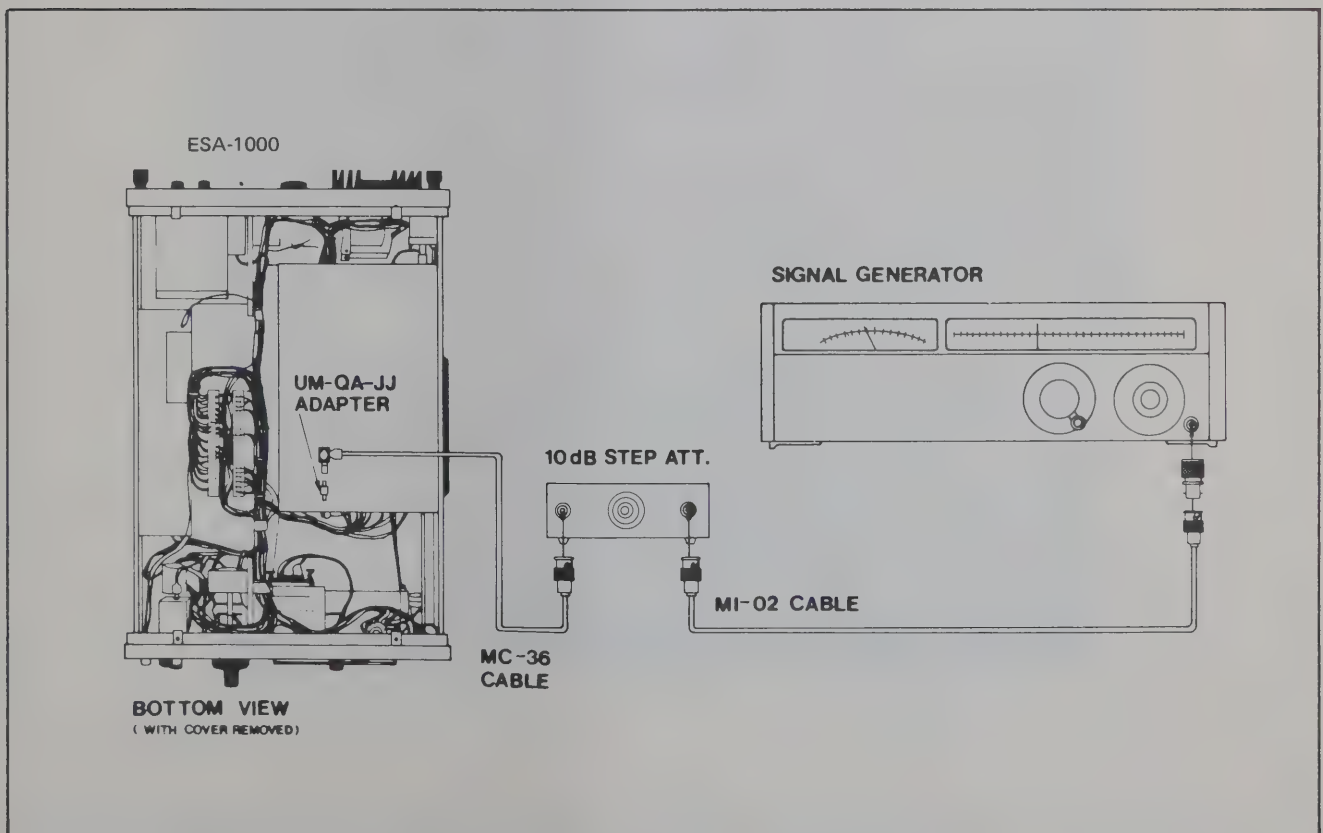

Figure 5.10 LOG AMP Adjustment Setup
- c. As shown in Figure 5.10, disconnect connector J53 from the output of the SK030 board which is the input of the 1 dB step IF Attenuator (MEP-263). Utilizing the UM-UM Adapter (UM-QA-JJ), connect the Signal Generator output (3.33 MHz at +6.0 dB $\mu$ ) to J53 via the external 10 dB step attenuator.